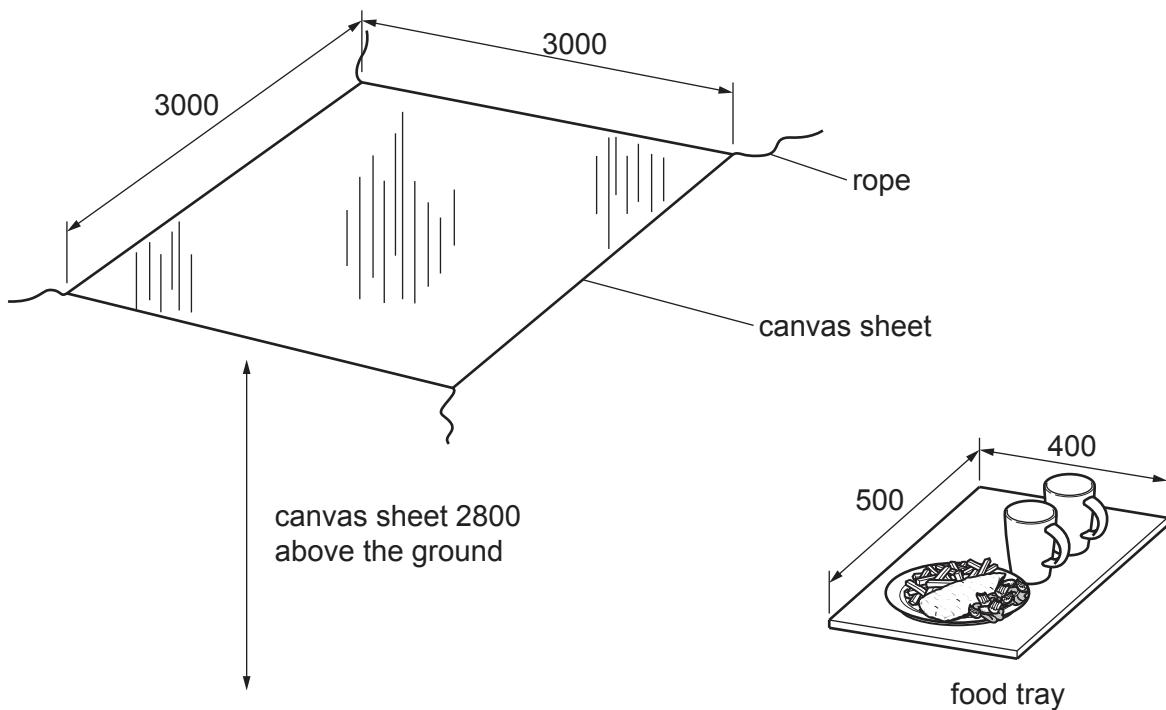

Fig. 9.1
9 Fig. 9.1 shows an incomplete design for a garden shade.
- (a) Use notes and sketches to **develop** a design for a lightweight structure that will support the canvas sheet at the height shown in Fig. 9.1. The structure should be assembled without the use of tools. [20]